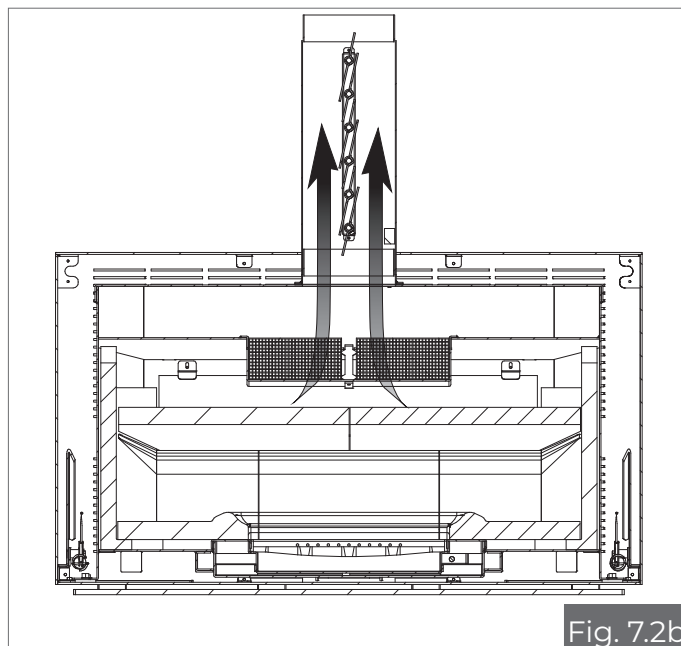

Fig. 7.2b
- Position the valves in the fully open position (Fig. 7.2b);